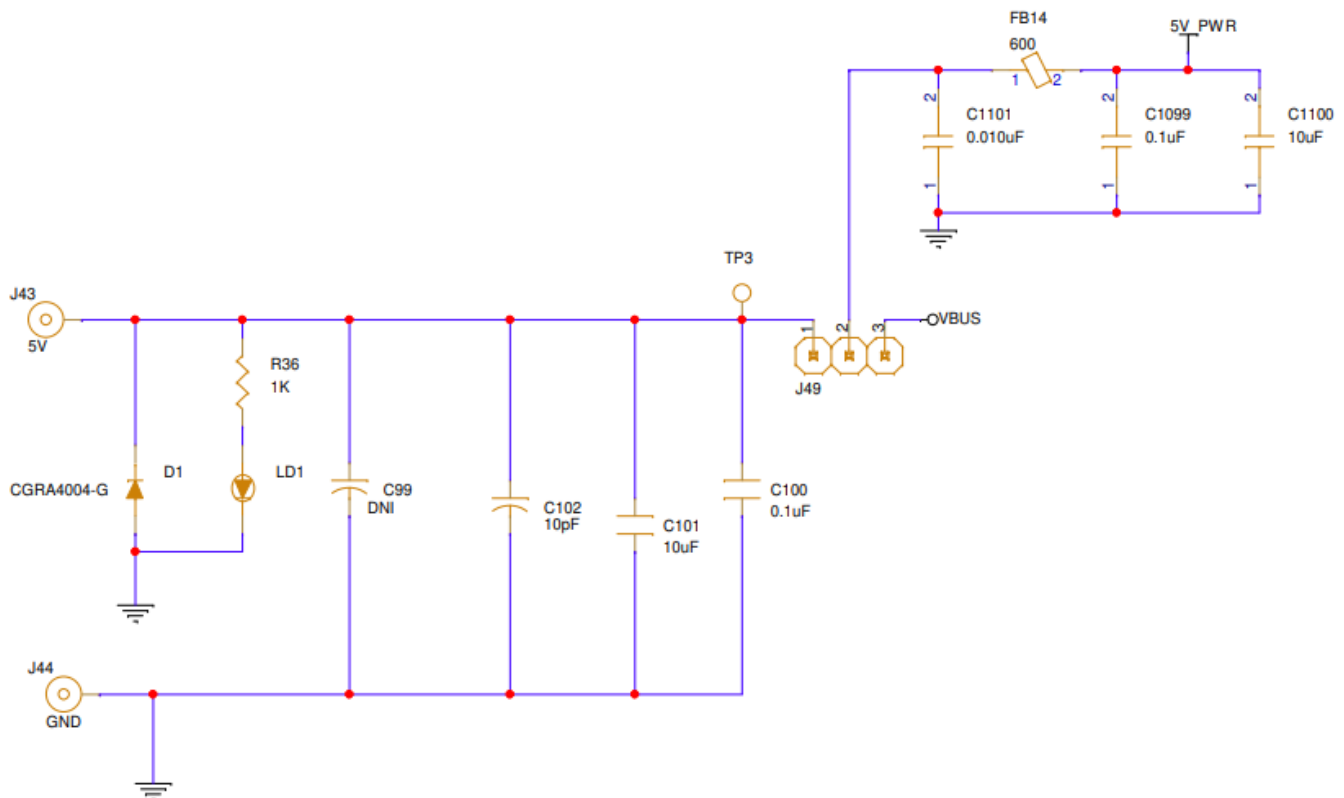
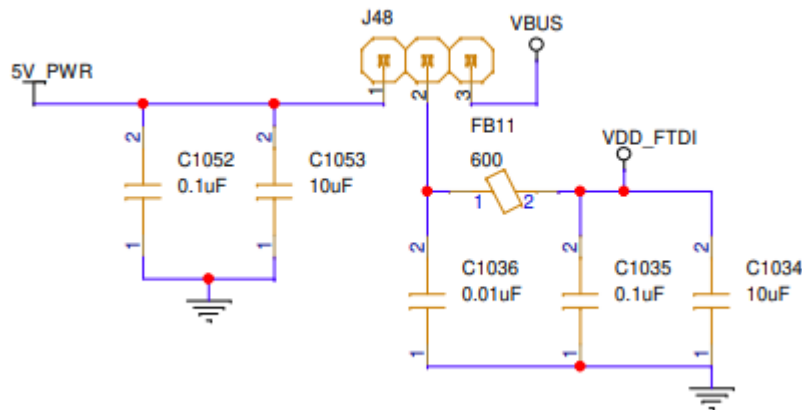

Figure 3. USB Power/External Power Select Jumpers J49
Figure 4. USB Power/External Power Select Jumpers J48
Use 5V from a Power Supply or USB 3.0 with on-board LDO to generate 3.3V power rail. See Figure 3 for power select jumper settings.
- Jumper J49 and J48 is used for selecting a +5V power supply from an external power supply or from USB 3.0. Figure 3 and Figure 4 show the schematics of jumper J49 and J48.